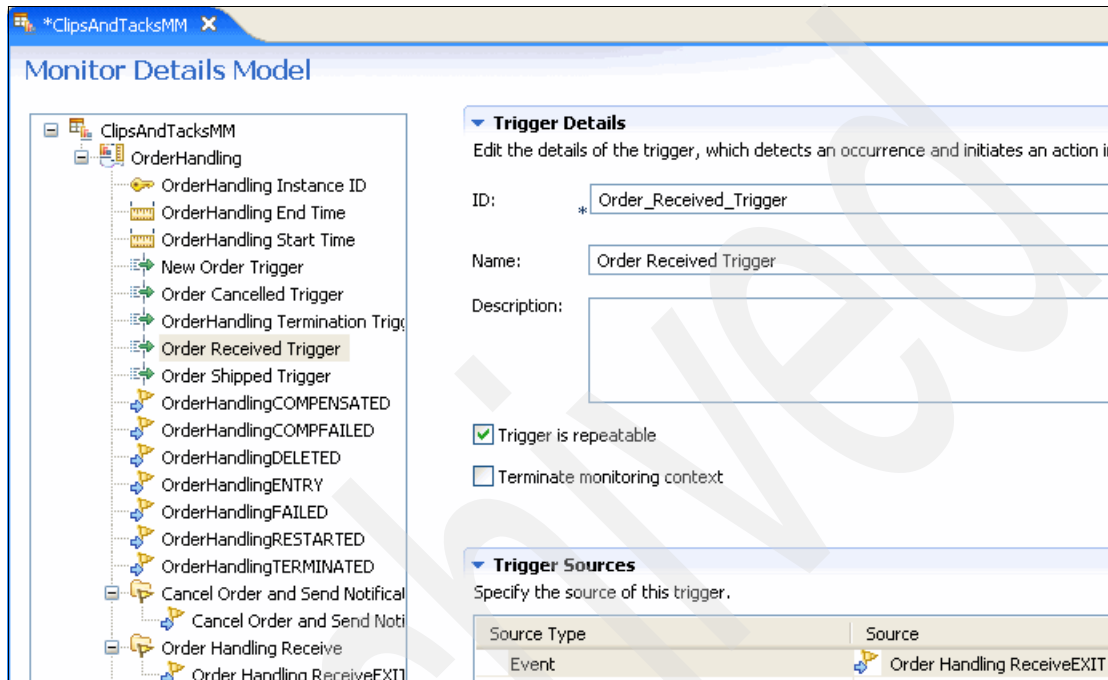

Figure 5-35 Order Received Trigger overview
3. In the Monitor Details Model panel (Figure 5-35), under Trigger Sources: